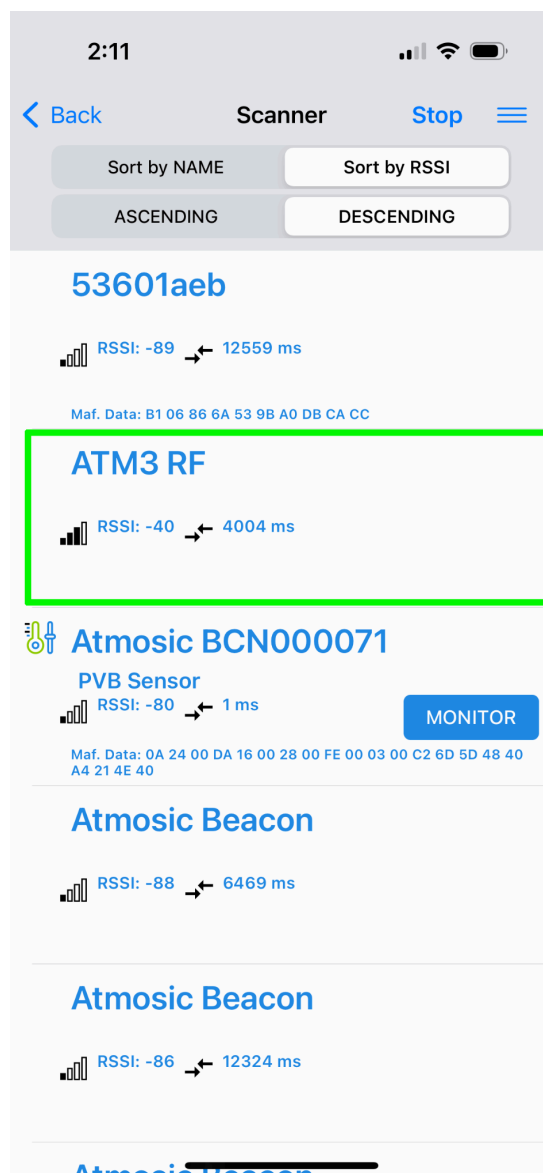

Figure 9 - EVB Detected by Atmosic DevTools
- Figure 9 - EVB Detected by ViewTool Hollong Bluetooth LE Sniffer
When the EVB receives enough harvested energy to power up the chip and sends beacons, the advertisement beacons can be detectable with any Bluetooth LE sniffer application. As an example, Atmosic DevTools App (available by searching for Atmosic DevTools in Google Play or Apple Apps Store) is used and the screenshot is shown in Figure 9.